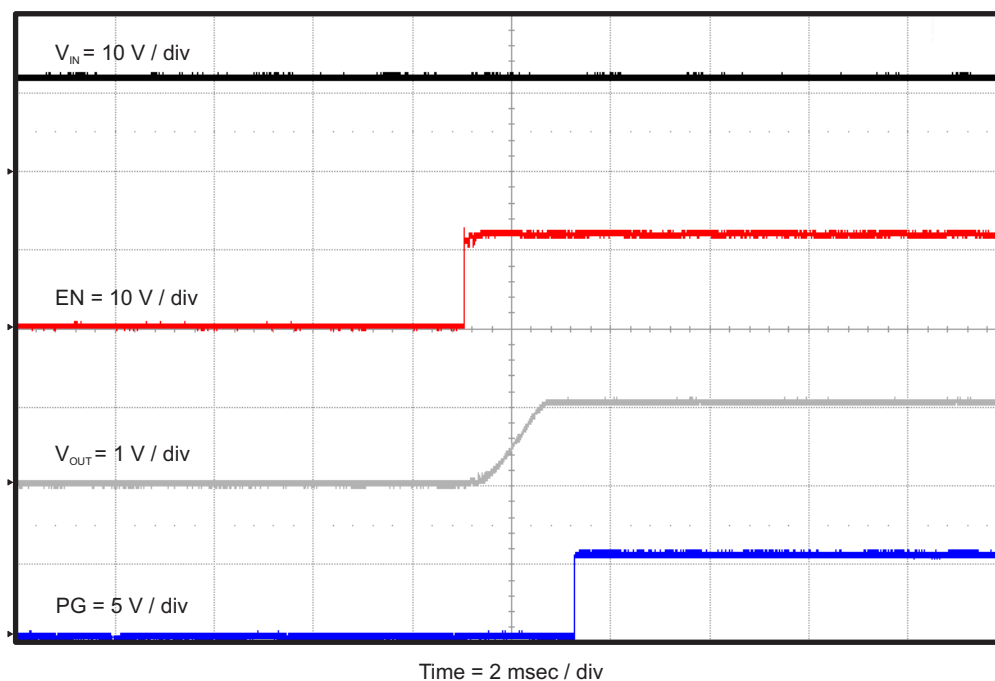

Figure 12. TPS54626EVM-608 Start Up Relative to EN
The TPS54626EVM-608 start up waveform relative to enable (EN) is shown in Figure 12. Load = 1 Ω resistive.